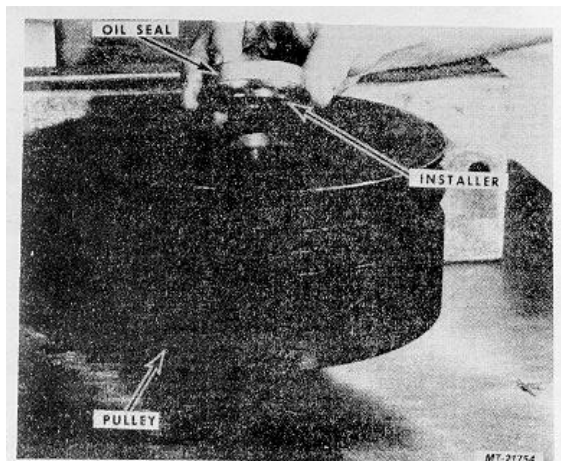

Fig. 62
25. Lubricate the seal contact diameter of Installer SE-2782-4. Place Oil Seal on the Installer with the lip exposed as shown, Fig. 62.